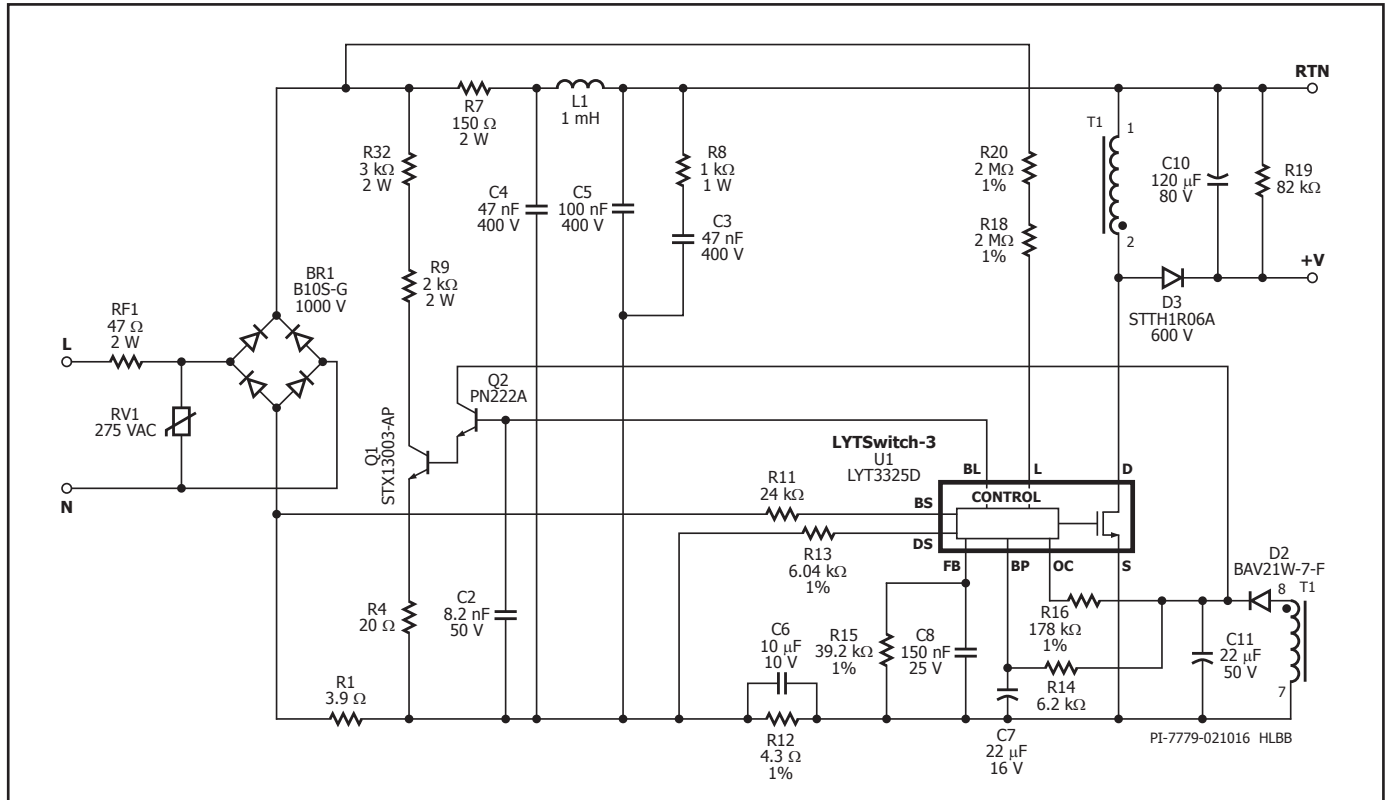

Figure 7. DER-524 8 W, 72 V, 115 mA Non-Isolated Dimmable A19 LED Bulb Driver using LYT3325D.
The circuit shown in Figure 7 is configured as a buck-boost power supply utilizing the LYT3325D from the LYTSwitch-3 family of ICs. This type of LED driver configuration is common for dimmable bulb applications where high dimmer compatibility, accurate regulation, high efficiency, high power factor and low ATHD are required along with low component count for high reliability. The output can drive an LED load from 68 V to 76 V with a constant output current of 115 mA  $\pm$ 3% across an input range of 195 VAC to 264 VAC and can operate in maximum ambient temperature of 100 °C with good margin below the thermal foldback protection point. It has an efficiency of greater than 86%, very low ATHD% (less than 20%) and high power factor of greater than 0.9 measured across the input range.
AC input power is rectified by bridge BR1. A 1000 V voltage rating is recommended (the maximum clamp voltage for a typical 275 V varistor is 720 V). The rectified DC is filtered by the input capacitors C4 and C5. Too much capacitance degrades power factor and ATHD, so the values of the input capacitors were adjusted to the minimum values necessary to meet EMI with a suitable margin. Inductor L1, C4 and C5 form a  $\pi$  (pi) filter, which attenuates conducted differential and common mode EMI currents. Optional resistor R10 across L1 damps the Q of the filter inductor to improve filtering without reducing low frequency attenuation. Fuse RF1 in Figure 7 provides protection against catastrophic failures such as short-circuit at the input. For cost reduction, this can be replaced by a fusible resistor (typically a flame proof wire-wound type) which would need to be rated to withstand the instantaneous dissipation induced when charging the input capacitance when first connected to the input line.
Selection of fuse RF1 in Figure 7 type and rating is dependent on input surge requirements. Typical minimum requirement for bulb application is 500 V differential surges. This design meets a 1 kV surge specification, so a 47  $\Omega$  fusible resistor in Figure 7 was used. A fast-blow fuse with high ampere energy ( $I^2t$ ) rating could also be used.
The bias winding voltage is proportional to the output voltage (controlled by the turns-ratio between the bias supply and output-main winding). This allows the output voltage to be monitored without the need for output-side feedback components. Resistor R16 in Figure 7 converts the bias voltage into a current which is fed into the OUTPUT COMPENSATION (OC) pin of U1. The OUTPUT COMPENSATION pin current is also used to detect output overvoltage which is set to 30% above the nominal output voltage. Once the current exceeds the  $I_{OV}$  threshold the IC will trigger a latch, which disables switching which prevents the output from rising further. An AC recycle is needed to reset this protection mode once triggered.